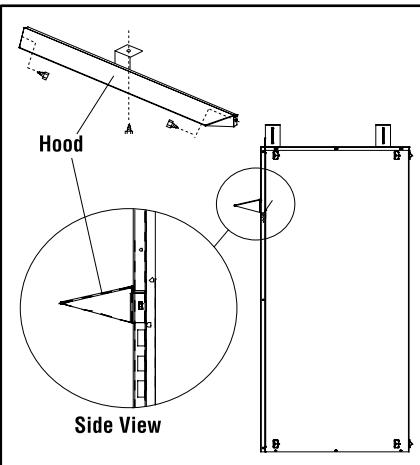

Figure 11
NOTE: A hood comes standard and is required for models VRT2536WS and VRT2542WS. The factory-supplied hood must be installed on the firebox for safe operation for models VRT2536WS and VRT2542WS in all installations. See Figure 11.
Step 2. Align the hood with the holes in the side frames as shown in Figure 11. Install three screws as shown in Figure 11. Make sure hood is level and secure.